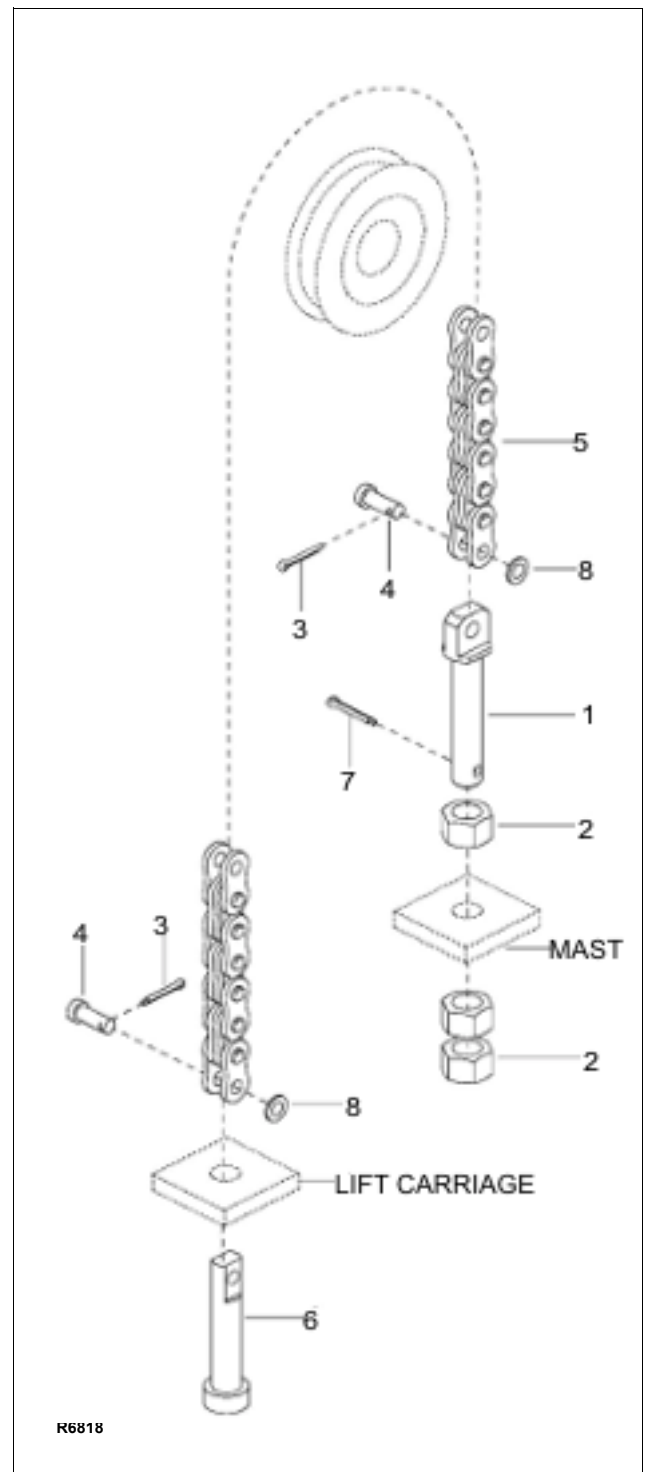
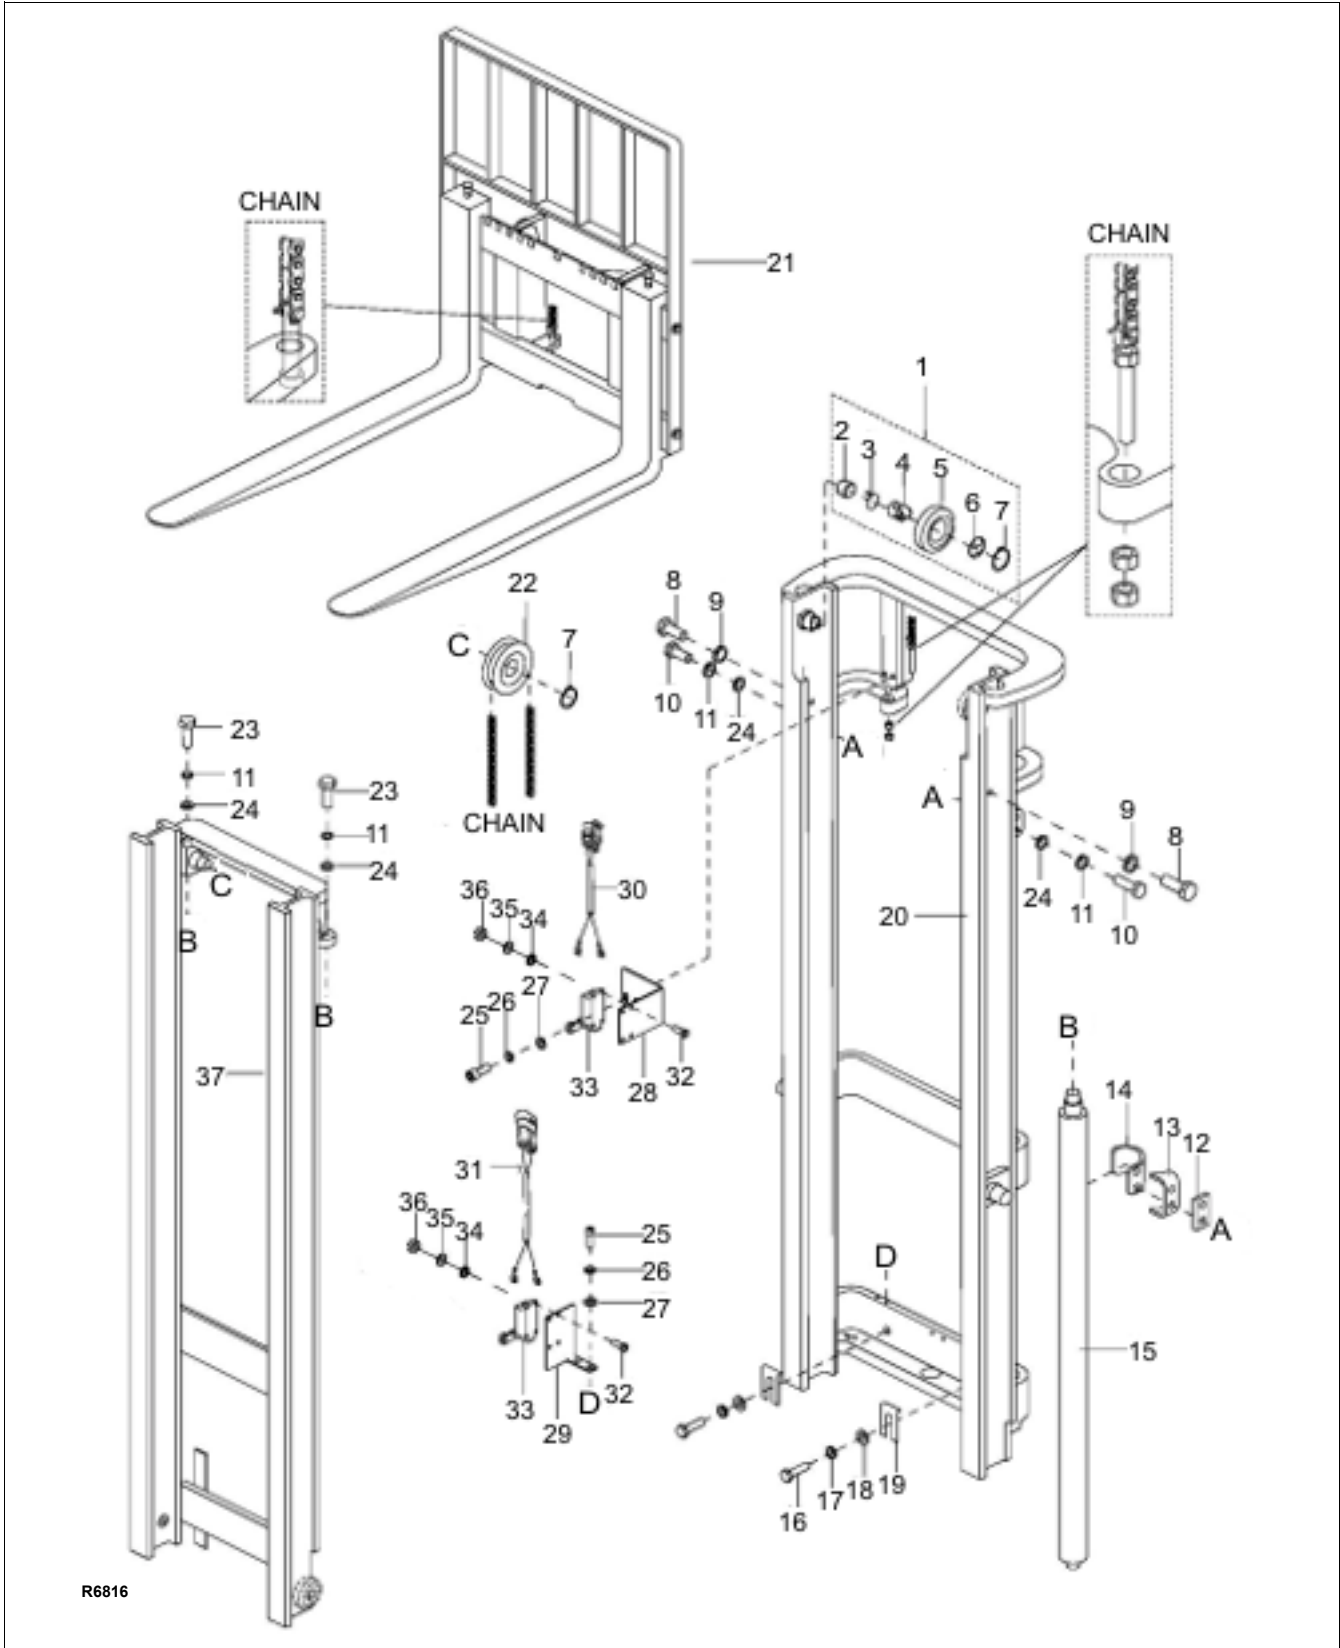
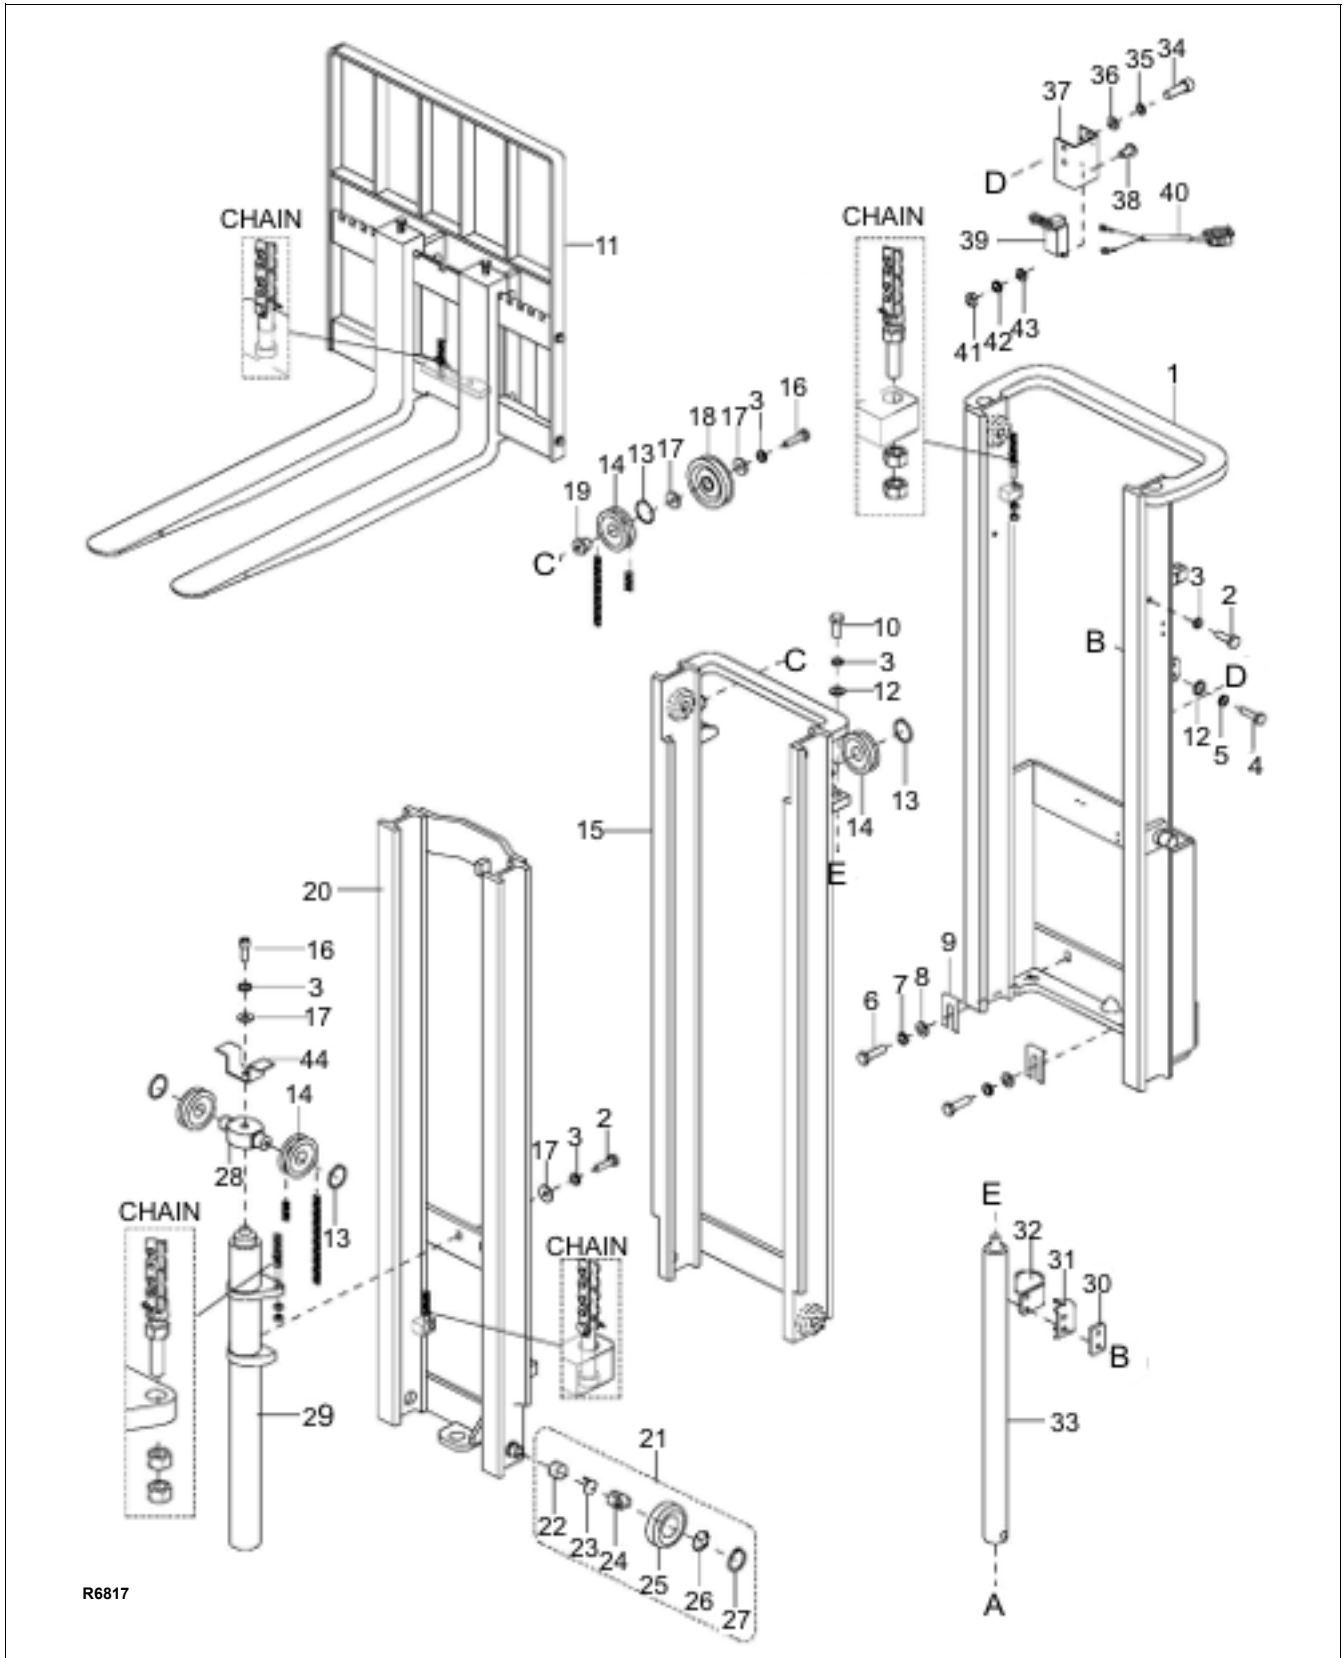

Figure 8-1 Chain Assembly
Figure 8-2 Elevation System (Telescopic)
Figure 8-3 Mast (TRIMAST)
3. Loosen jam nuts (2, Figure 8-1), located the above the mount of outer mast (20, Figure 8-2), to allow for adjustment of middle jam nut.
4. Break the lower jam nuts (2, Figure 8-1), located below the mount of outer mast, free from the middle jam nuts (2).
5. Take up slack in both lift chains with middle jam nut (2). Strive for equal tension on both chains.
6. Align anchors (1) so each clevis pin (4) is parallel to outer mast cross (20, Figure 8-2).
CAUTION: At least 3 full threads must be present below lower nut (2, Figure 8-1) after adjustment.
3. Loosen jam nuts (2, Figure 8-1), located the above the mounts of cylinder (29, Figure 8-3), to allow for adjustment of middle jam nut.
4. Break the lower jam nuts (2, Figure 8-1), located below the mounts of cylinder (29, Figure 8-3), free from the middle jam nuts (2).
5. Take up slack in both lift chains with middle jam nut (2, Figure 8-1). Strive for equal tension on both chains.
6. Align anchors (1) so each clevis pin (4) is parallel to inner mast (20, Figure 8-3).
3. Loosen jam nuts (2, Figure 8-1), the mount of outer mast (1, Figure 8-3), to allow for adjustment of middle jam nut.
4. Break the lower jam nuts (2, Figure 8-1), located below the mount of outer mast (1, Figure 8-3), free from the middle jam nuts.
6. Align anchors (1) so each clevis pin (4) is parallel to the outer mast (1, Figure 8-3).
1. With the lift truck wheels securely blocked, raise the forks approximately three feet from floor and position blocks or strong supports under inner mast (34, Figure 8-2).
4. Remove cotter pin (3, Figure 8-1) and clevis pin (4) connecting chain (5) to chain anchor (6) at the lift carriage.
5. Remove cotter pin (3) and clevis pin (4) connecting chain (5) to chain anchor (1) at the outer mast (20, Figure 8-2).
6. Remove chain from sheave (22).
7. Position new chain on sheave (22).
8. Secure chain to chain anchor (1, Figure 8-2) at the outer mast with clevis pin (4) and cotter pin (3).
9. Connect the opposite end of chain to chain anchor (6) at the lift carriage with clevis pin (4) and cotter pin (3).
5. Remove cotter pin (3) and clevis pin (4) connecting chain (5) to chain anchor (1) at free lift cylinder (29, Figure 8-3).
6. Remove chain from sheave (14).
7. Position new chain on sheave (14).
8. Secure chain to chain anchor (1) at free lift cylinder (29) with clevis pin (4) and cotter pin (3).
1. With the lift truck wheels securely blocked, raise the forks approximately five feet from floor and position blocks or strong supports under masts (15 and 20, Figure 8-3).
4. Remove cotter pin (3, Figure 8-1) and clevis pin (4) connecting chain (5) to chain anchor (6) at inner mast (20).
5. Remove cotter pin (3) and clevis pin (4) connecting chain (5) to chain anchor (1) at outer mast (1, Figure 8-3).
8. Secure chain to chain anchor (1) at outer mast (1, Figure 8-3) with clevis pin (4, Figure 8-1) and cotter pin (3).
9. Connect the opposite end of chain to chain anchor (6) at inner mast (20, Figure 8-3) with clevis pin (4, Figure 8-1) and cotter pin (3).